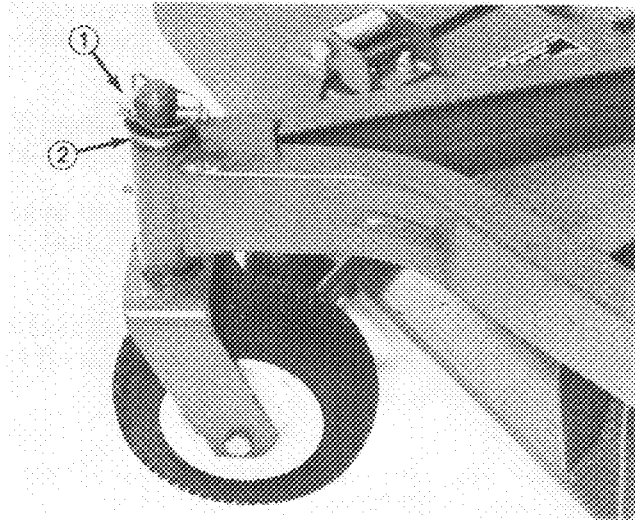

Figure 23
2. Remove lynch pin and thrust washers from top of castor spindle (Fig. 23).
4. Insert pin punch into top or bottom of mounting tube and drive bushing out of tube (Fig. 23). Also drive other bushing out of tube. Clean inside of tubes to remove dirt.